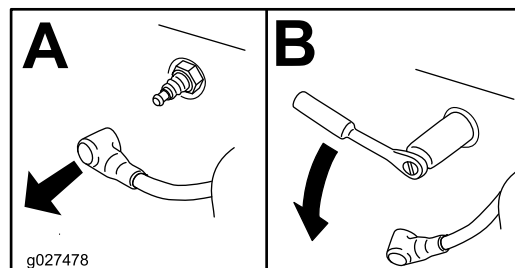

Figura 27
4. Retire la bujía (Figura 27).